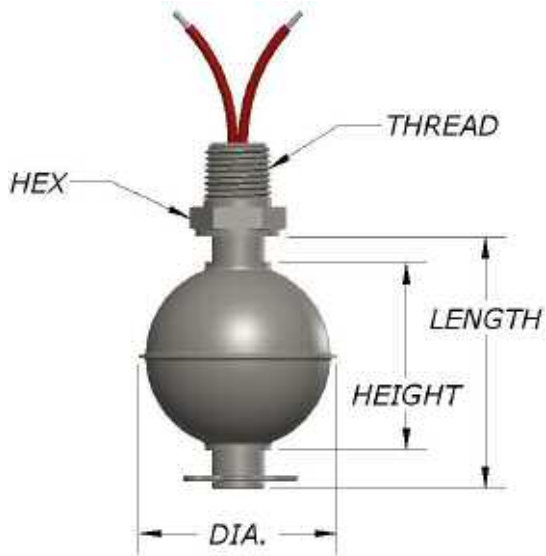

Figure 1
1. SPST reed switch: Connect wiring to red switch leads or terminals per wiring diagram. See figure 1.
| L177 | 1/8" NPT | 1/2" | 1.50" | 1.00" | 1.18" | Fig. 1 |
| L195 | 1/4" NPT | 5/8" | 2.53" | 2.00" | 2.00" | Fig. 1 |